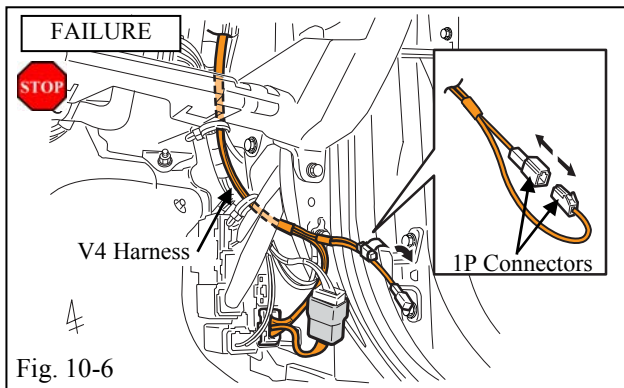

Fig. 10-6
- (j) Disconnect the V4 Harness's White 1P Connectors in the Passengers Side Cowl area. (Fig. 10-6)